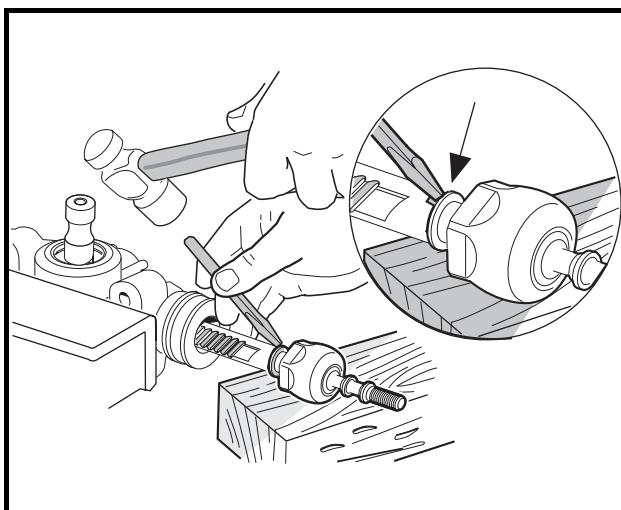

Figure 7-18 Remove Ball Joint
- 11.2. Tap the flange out of the notch in the rack (**Figure 7-18, Page 7-9**).